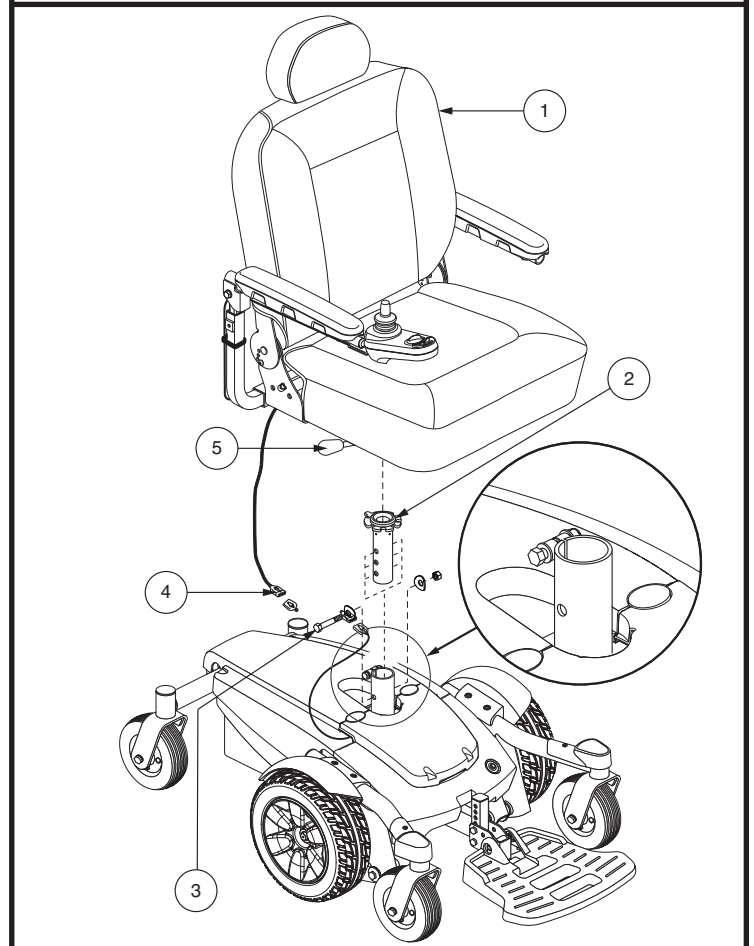

Figure 13. Seat Height Adjustment
3. Disconnect the controller connector from the power base. See figure 13.
4. Disengage the seat release lever. See figure 13.
6. Loosen the hardware at the rear of the seat post. See figure 13.
7. Remove the seat height adjustment bolt, washers, and nut from the seat post. See figure 13.